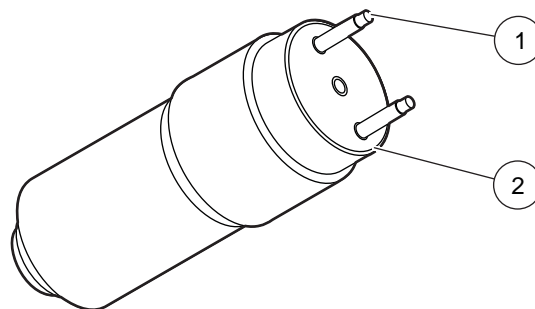

Figure 30 Removal of the top of the pump
7. Remove the top of the pump (refer to Figure 30) and locate the locator pin.